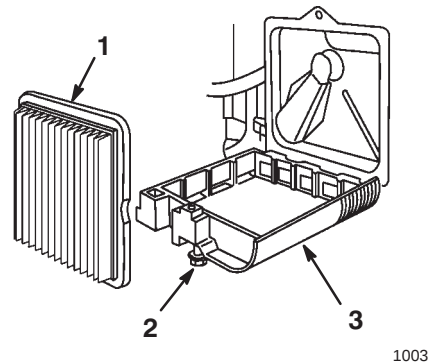

Figure 18
3. Loosen the screw that secures the air filter cover to the engine (Fig. 18).
5. Remove and discard the old paper air filter (Fig. 18).